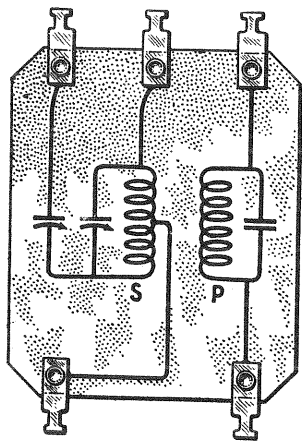

Figure 12—Internal connections of I.F. transformers.
- (b) Replace the first I.F. tube and place "dummy" tube in second I.F. stage and adjust the neutralizing condenser on the second I.F. transformer for position of minimum or no signal as described in the preceding paragraph (a). Figure 12 illustrates the internal connections of the I.F. transformers. It will be noted that the two condensers on the third transformer are connected in parallel for tuning. This stage does not require neutralizing.